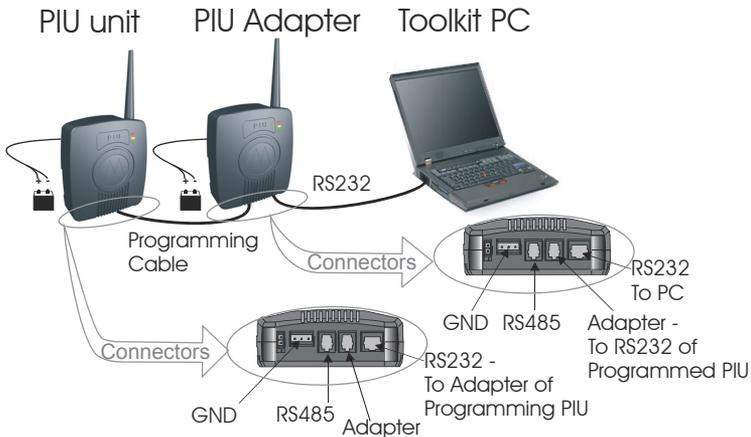

Figure 25
1. Connect the PIU adapter RS232 port to the computer with the FTN6597A cable (see Figure 25).